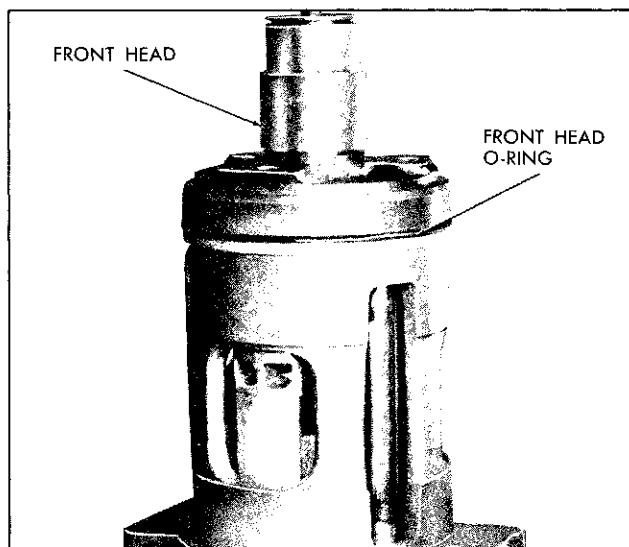

Fig. 1A-40 Installing Front Head Casing
9. Coat the inside machined surfaces of shell with clean 525 viscosity Frigidaire oil. Line up oil sump with oil intake tube hole and slide mechanism into shell. Maintain this alignment when lowering mechanism into place (Fig. 1A-41).